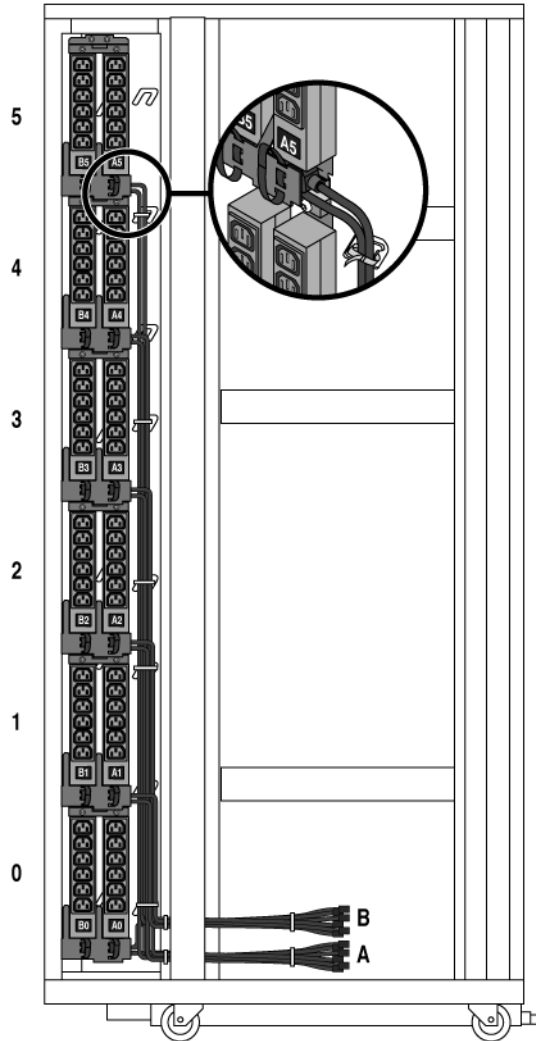

FIGURE 2-15 Cutting the Tie Wraps from the Power Strip Cables
1. Cut the tie wraps securing the power strip cables to the side of the rack (FIGURE 2-15).